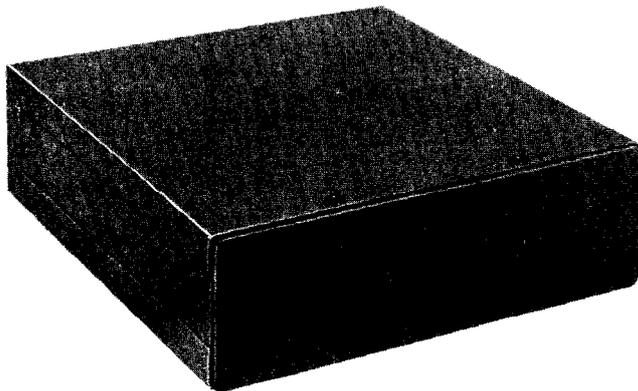

Fig. 2—1H Terminating Set—Front View
2.01 The 1H terminating set (see Fig. 2) consists of components mounted on a printed wiring board and housed in an aluminum can. The terminating set is approximately 5-1/4 inches wide, 1-3/4 inches high, and 7 inches deep.